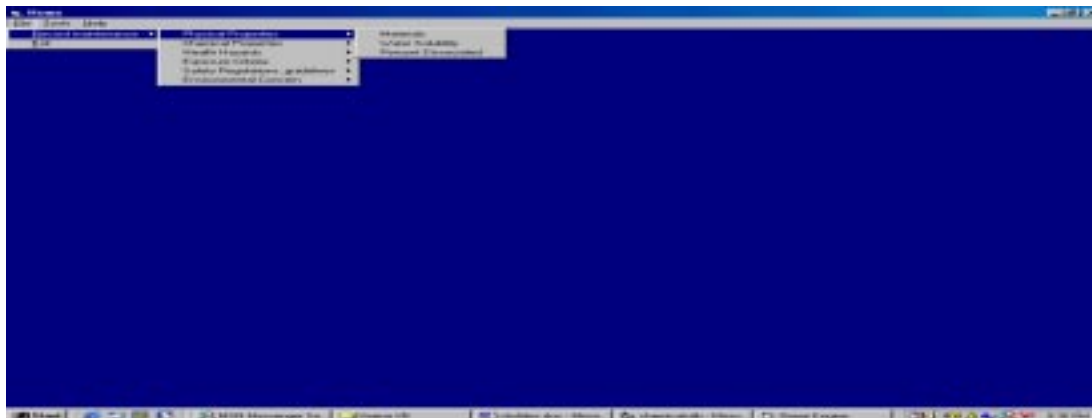

Figure 4.6: Listing the items in pull down menu for Physical Properties
- 3) Percent Dissociated tables as shown in the Figure 4.6 below